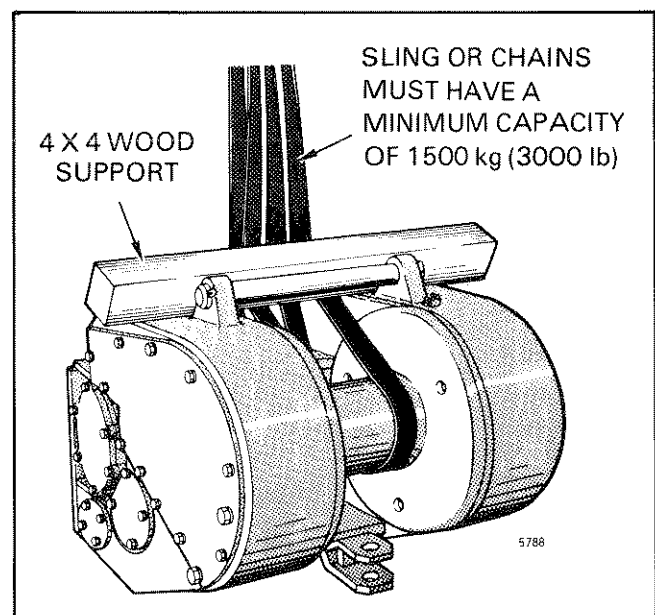

FIGURE 5.2 LIFTING THE WINCH
G. Connect a sling and a crane or lift mechanism to the winch as shown in Figure 5.2. The sling and crane must have a minimum capacity of 1500 kg (3000 lb). The 4 x 4 wood support shown in Figure 5.2 will keep the winch almost balanced. Use the crane to hold the weight of the winch.
A. Connect a crane or lift mechanism to the winch as shown in Figure 5.2. Move the winch to the attachment point of the tractor.